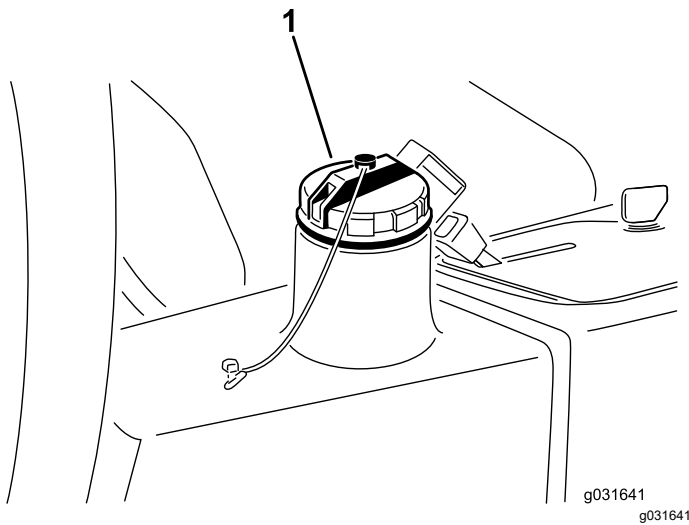

**Figure 66**
2. Disconnect the hydraulic line or remove the hydraulic filter and let the hydraulic fluid flow into a drain pan (Figure 65 and Figure 66).
3. Install the hydraulic line when the hydraulic fluid stops draining (Figure 66).